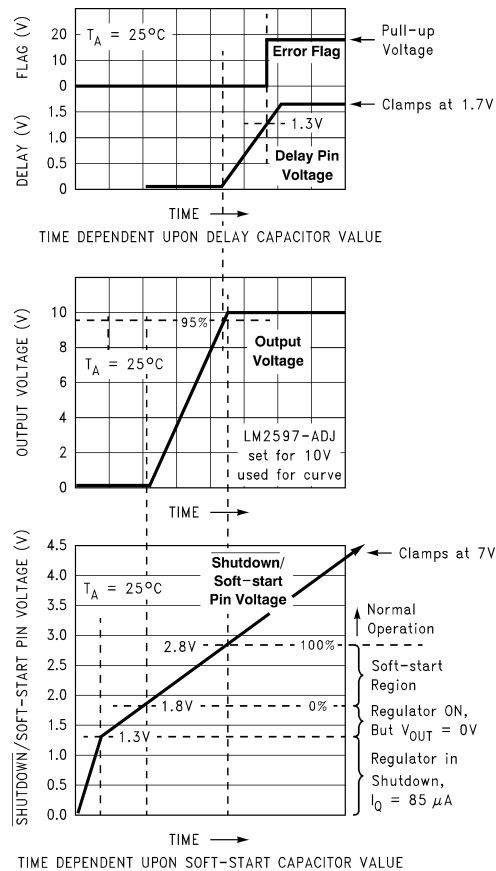
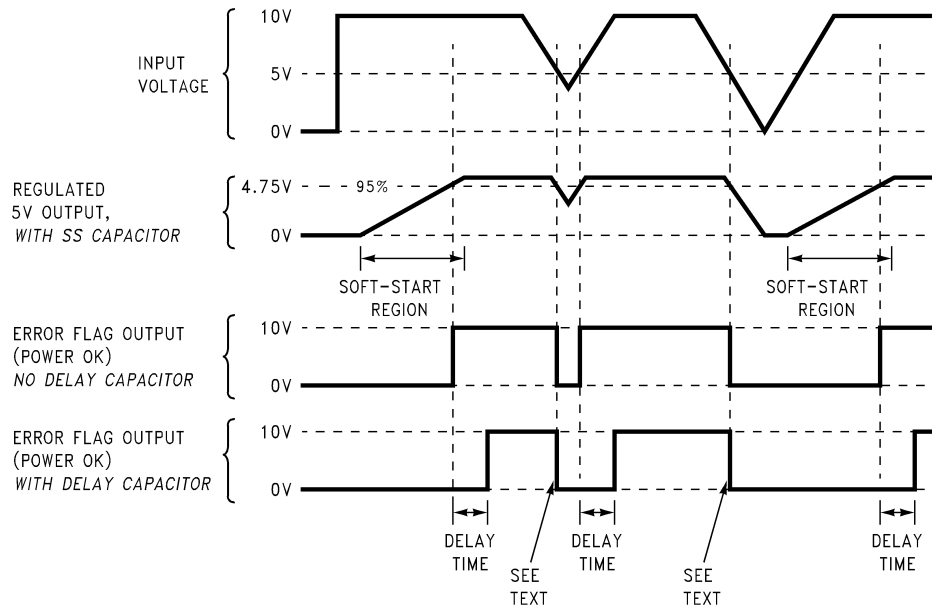

Figure 31. Soft-Start, Delay, Error, and Output
Figure 33. Timing Diagram for 5-V Output
A capacitor on this pin provides the regulator with a soft-start feature (slow start-up). When the DC input voltage is first applied to the regulator, or when the Shutdown/Soft-start pin is allowed to go high, a constant current (approximately 5 μ A) begins charging this capacitor). As the capacitor voltage rises, the regulator goes through four operating regions (see the bottom curve in Figure 31).
3. Soft-start Region – When the $\overline{SD/SS}$ pin voltage is between 1.8 V and 2.8 V (at 25°C), the regulator is in a soft-start condition. The switch (Pin 8) duty cycle initially starts out very low, with narrow pulses and gradually get wider as the capacitor $\overline{SD/SS}$ pin ramps up towards 2.8 V. As the duty cycle increases, the output voltage also increases at a controlled ramp up. See the center curve in Figure 31. The input supply current requirement also starts out at a low level for the narrow pulses and ramp up in a controlled manner. This is a very useful feature in some switcher topologies that require large start-up currents (such as the inverting configuration) which can load down the input power supply.
The lower curve shown in Figure 31 shows the soft-start region from 0% to 100%. This is not the duty cycle percentage, but the output voltage percentage. Also, the soft-start voltage range has a negative temperature coefficient associated with it. See the soft-start curve in Electrical Characteristics.
Provides delay for the error flag output. See the upper curve in Figure 31, and also refer to timing diagrams in Figure 33. A capacitor on this pin provides a time delay between the time the regulated output voltage (when it is increasing in value) reaches 95% of the nominal output voltage, and the time the error flag output goes high. A 3- μA constant current from the delay pin charges the delay capacitor resulting in a voltage ramp. When this voltage reaches a threshold of approximately 1.3 V, the open collector error flag output (or power OK) goes high. This signal can be used to indicate that the regulated output has reached the correct voltage and has stabilized.